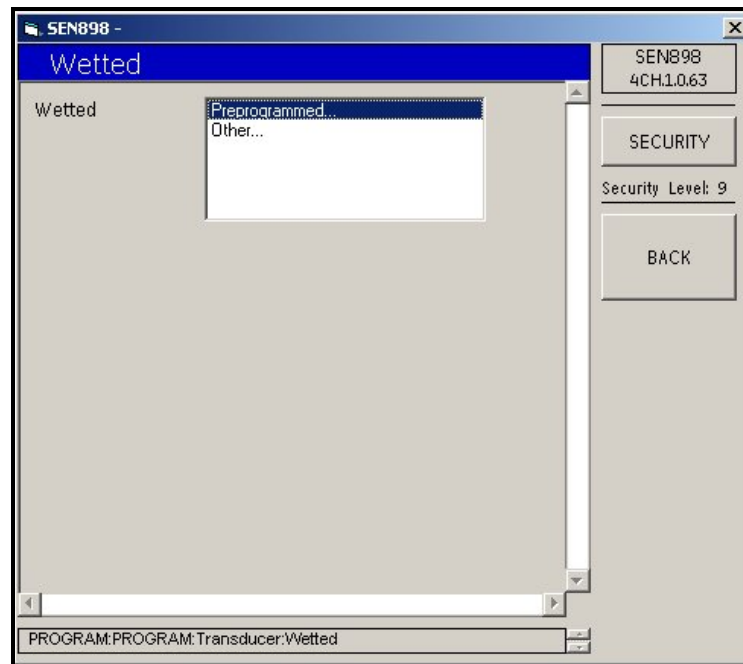

Figure 58: Wetted Transducer Options
12. If *Other* was selected under *Wetted* (see Figure 58 on page 75), the following screen appears.